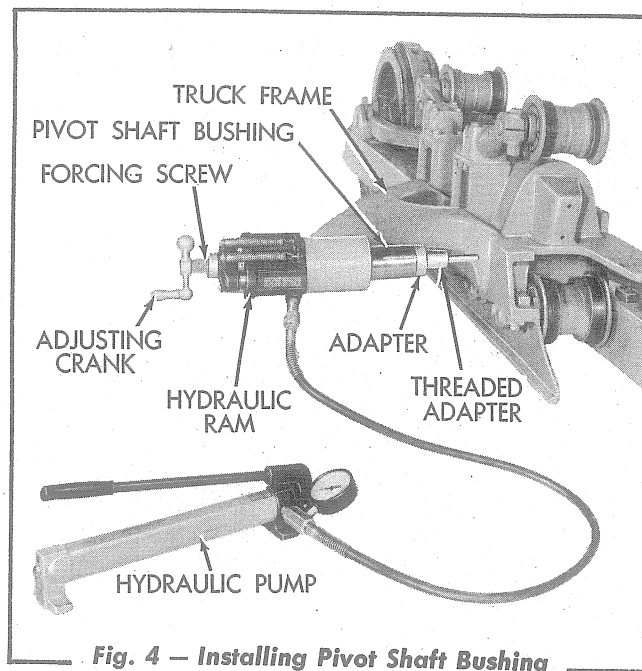

Fig. 4 — Installing Pivot Shaft Bushing
- Using special tools similar to the ones shown in Fig. 4, install the bushing into position in the bore of the truck frame. When installed, make certain that the bushing is centered in the bore (each end of the bushing being approximately $\frac{17}{32}$ " in from the outer ends of the bore in the truck frame).